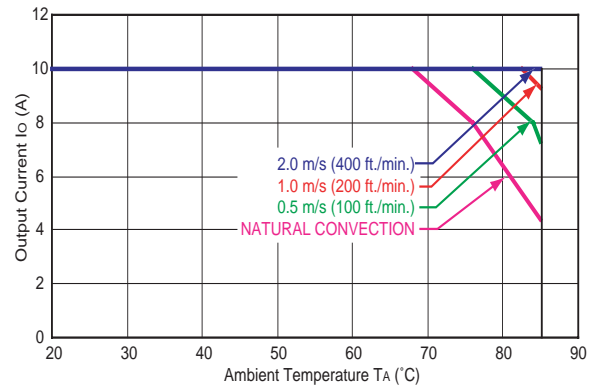

Figure 44. Derating Curves for HW010A0F1 (VO = 3.3 V) in Transverse Orientation (VI = 48 Vdc).
Increasing airflow over the module enhances the heat transfer via convection. Figures 44—48 show the maximum current that can be delivered by various modules versus local ambient temperature (TA) for natural convection through 2 m/s (400 ft./min.).
Systems in which these power modules may be used typically generate natural convection airflow rates of 0.3 ms-1 (60 ft./min.) due to other heat-dissipating components in the system. Therefore, the natural convection condition represents airflow rates of up to 0.3 ms-1 (60 ft./min.). Use of Figure 44 is shown in the following example.
Determine airflow (v) (Use Figure 44.):